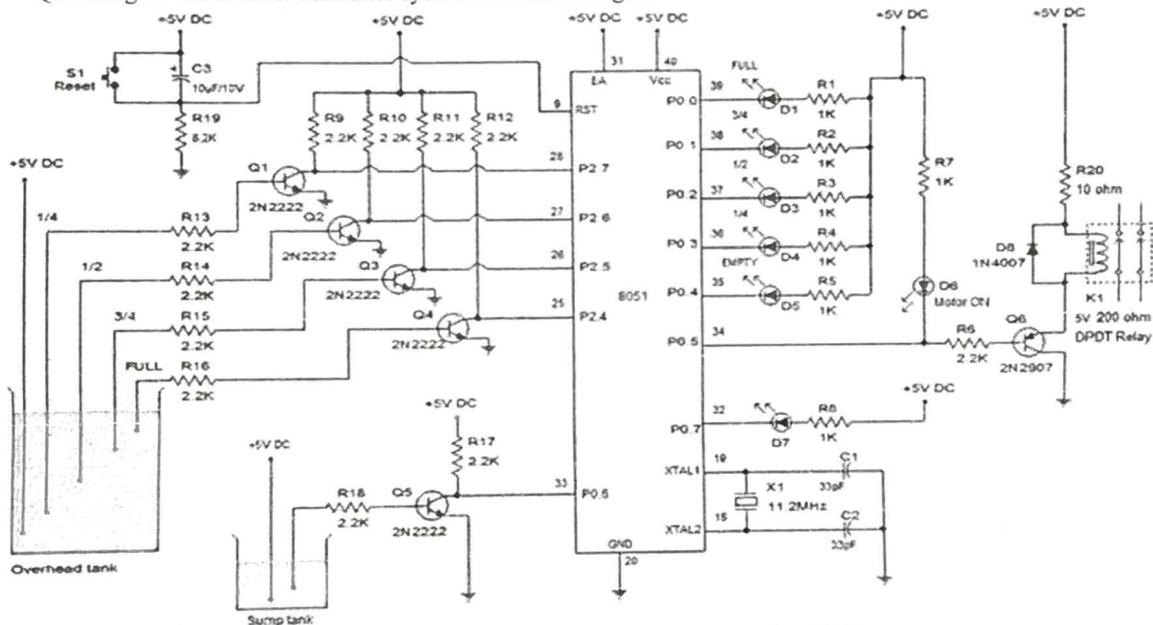

Figure 2 Water Level Controller System using 8051
- The level sensor probes for the overhead tank are interfaced to the port 2 of the microcontroller through transistors. Have a look at the sensor probe arrangement for the overhead tank in Figure 2.